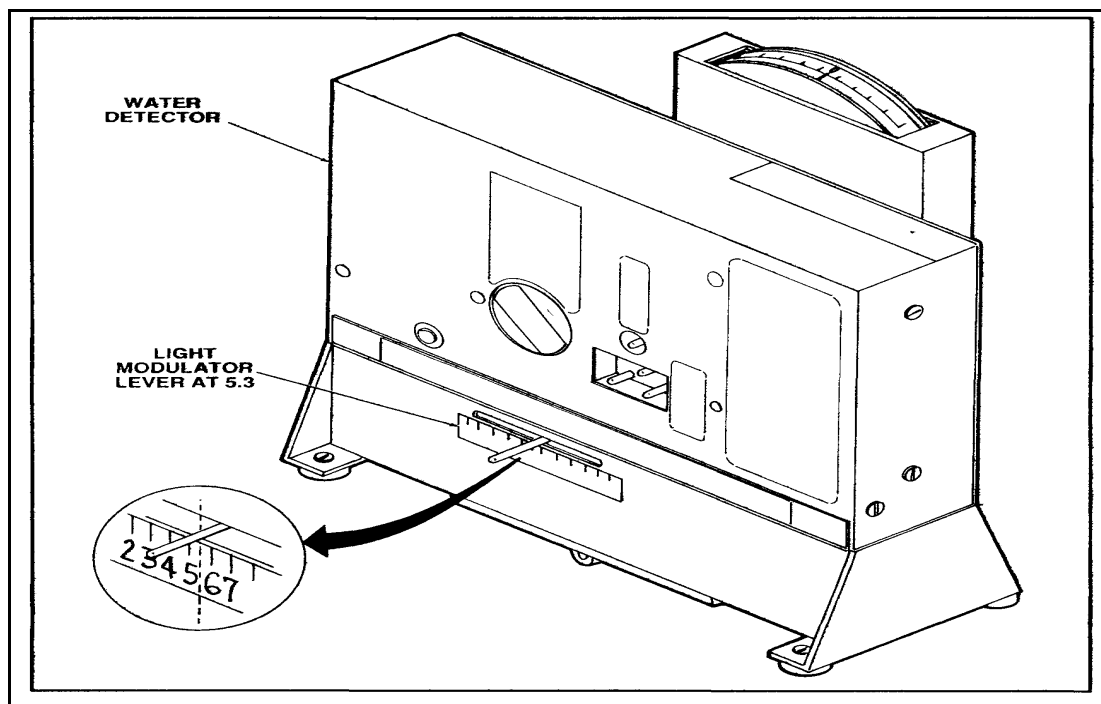

Figure E-5. Set the light-modulator lever
- Position the light-modulator lever, located on the side of the water detector, until the lever is directly above the number on the scale corresponding to the set number shown on the calibration pad as shown in Figure E-5, page E-4.